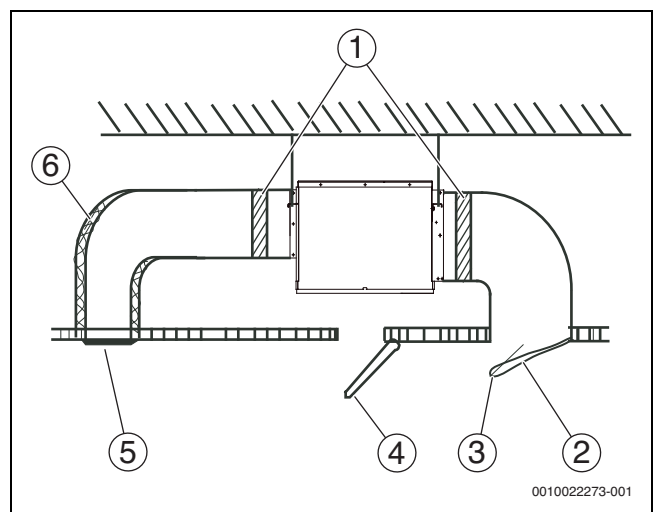
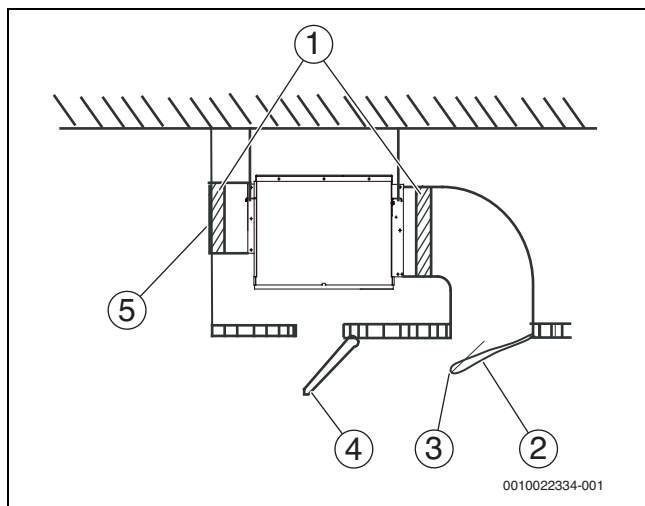

Fig. 99 Duct unit with static pressure requirements
Fig. 100 Duct unit without static pressure requirements.
6. Connect the air duct as shown in Fig. 99 or 100. On-site preparation required for all components except for the air conditioner.
Legend Fig. 99 and Fig. 100: